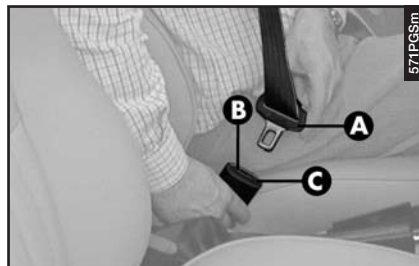

fig. 48
Take hold the tongue (A-fig. 48) and insert it into the buckle (B), until hearing the locking click.